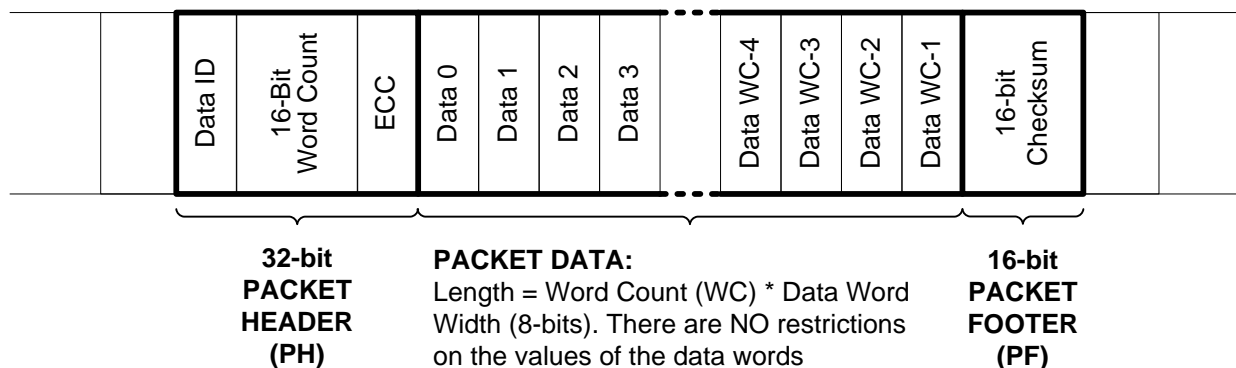

图 21. CSI-2 Long Packet Structure
A long packet consists of three elements: a 32-bit packet header (PH), an application-specific data payload with a variable number of 8-bit data words, and a 16-bit packet footer (PF). The packet header is further composed of three elements: an 8-bit data identifier, a 16-bit word count field, and an 8-bit ECC. The packet footer has one element, a 16-bit checksum. 图 21 shows the structure of a long packet.